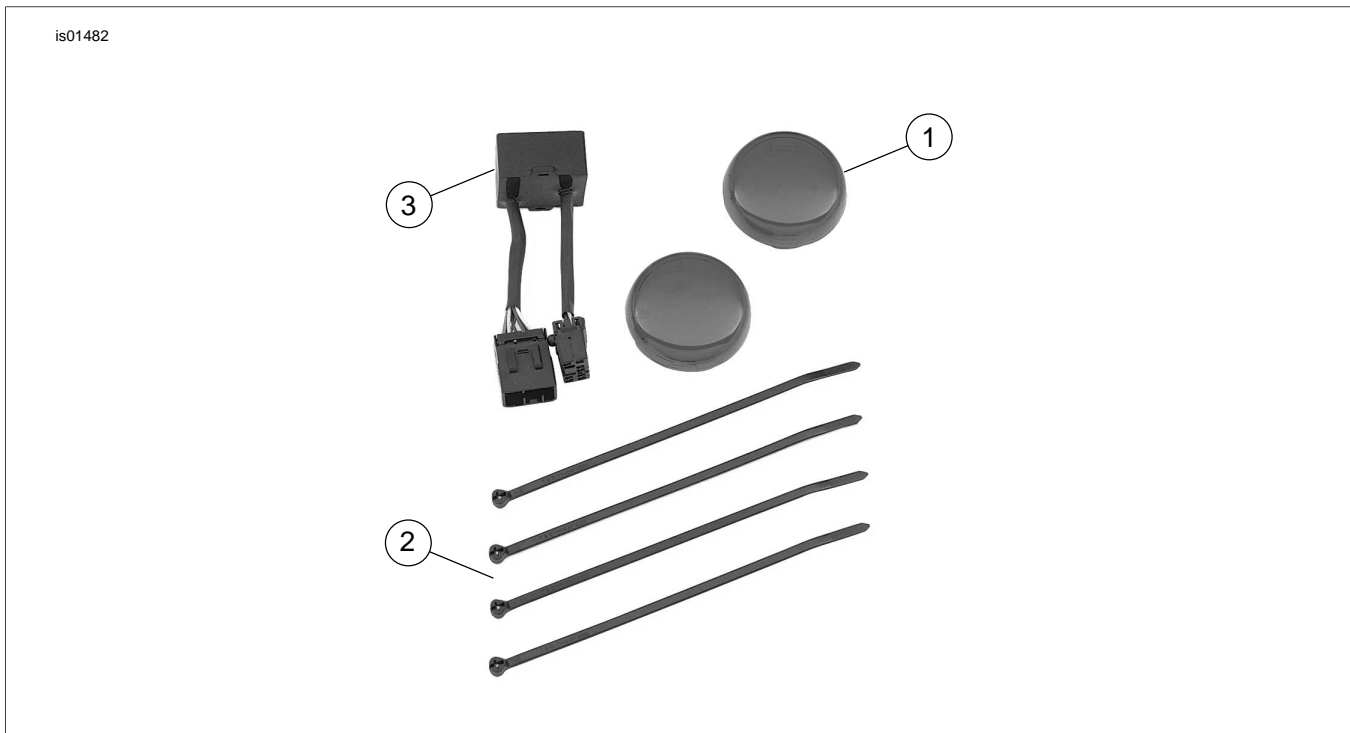

Figure 2. Service Parts: Brake Light/Turn Signal Kit
See Figure 2 and Table 1.
3. See Figure 2. Obtain the turn signal module (3) from the kit and mate the module connectors to the male and female wiring harness connections. Snap into place.
6. See Figure 2. Obtain the red turn signal lenses (1) from the kit. Snap a red lens into the turn signal housing. Repeat for the other lens.